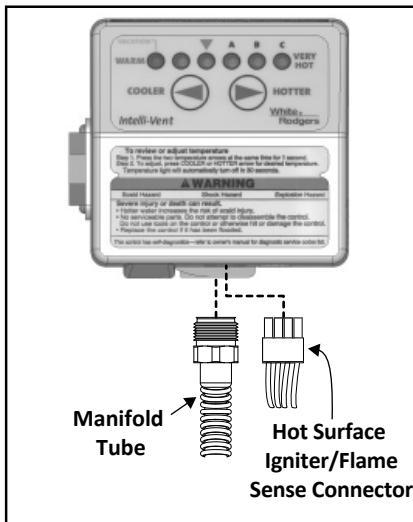

Figure 44 -
- 6 Disconnect the hot surface igniter/flame sense cable from the thermostat (Figure 44).
- 7 Disconnect the manifold tube at the gas control valve/thermostat (Figure 44).